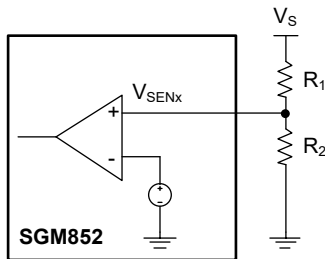

Figure 4. Setting Trigger Voltage of System
The dual sense inputs, VSEN1 and VSEN2, can monitor system voltage through a resistive divider network with V_{RTH} in a wide range. As shown in Figure 4, V_S is the system voltage. The trigger voltage of system V_{S_TH} can be calculated by equation (1):